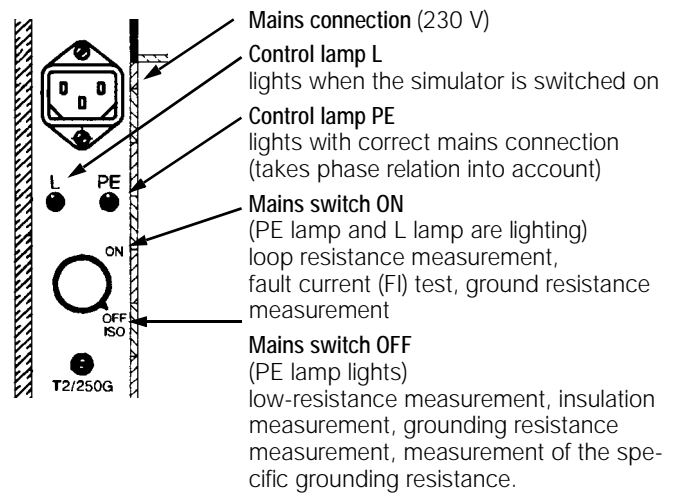
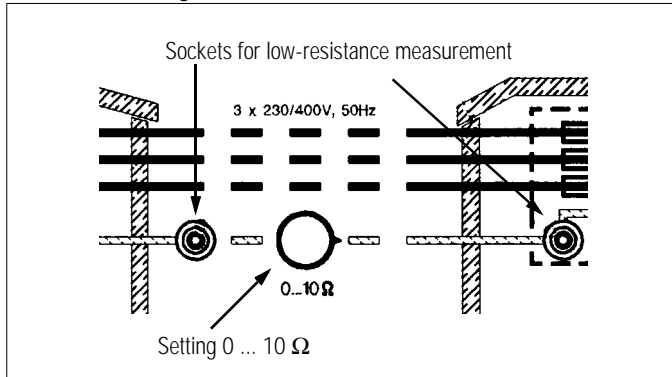
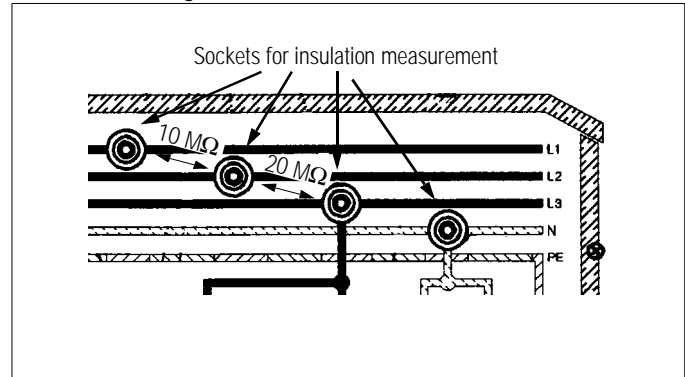

Figure 3.1-1
Bild 4.1-1
Bild 5.1-1
Now the control lamp L lights additionally, see Figure 3.1-1.
De-energized state of the simulator – only the control lamp PE lights [see Figure 3.1-1]. This measurement can be demonstrated between the two sockets for low-resistance measurements [Bild 4.1-1]. The resistance value can be varied with the controller within the range of 0 ... 10 Ω .
De-energized state of the simulator – only the control lamp PE lights, see Figure 3.1-1. This measurement can be demonstrated between the four sockets [Bild 5.1-1] with different values.
- ⇨ Switch on the simulator PROFi TEST S1 with the mains switch, see Figure 3.1-1.
Use the ground contact/secondary emission multiplier adapter (accessory) for measurements with the secondary emission multiplier plug unit. In the TN system, the displayed value can be changed via the setting knob [Bild 4.1-1].